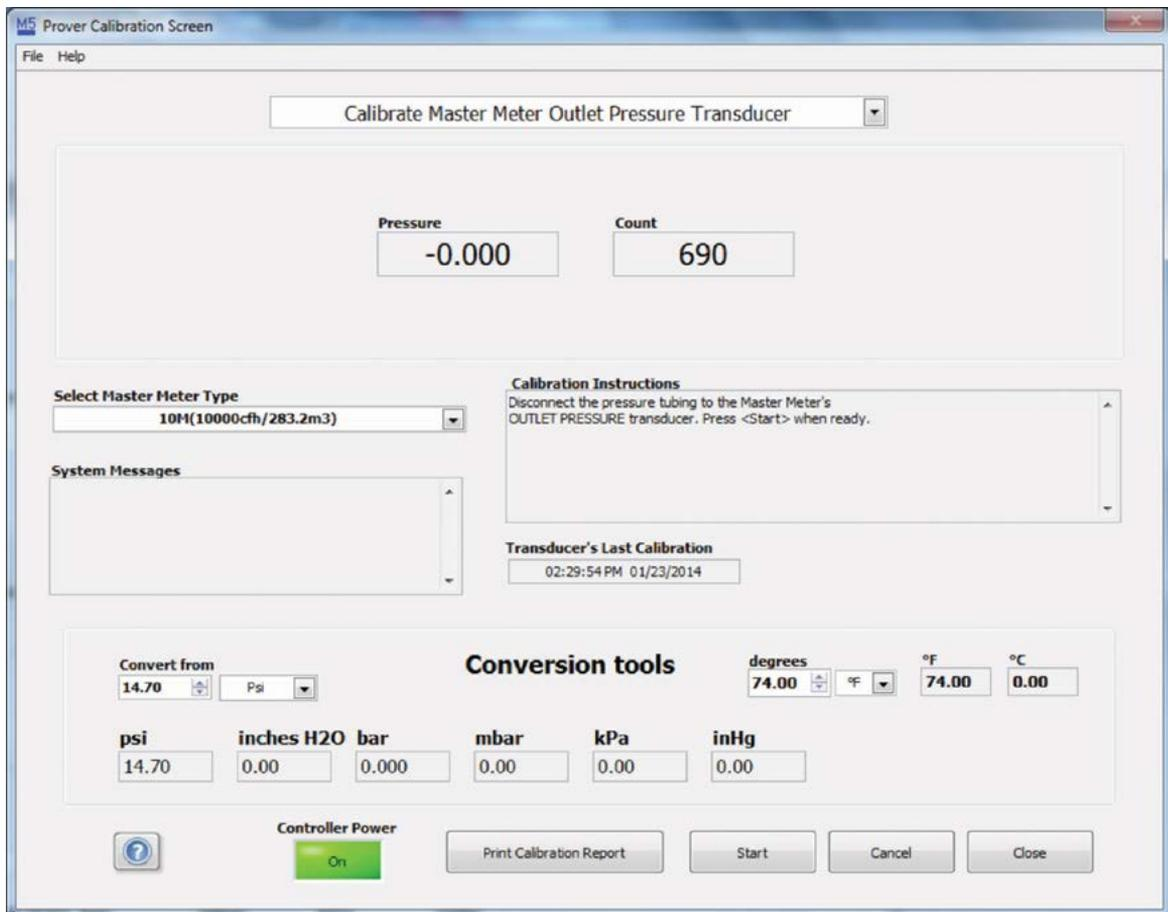

Figure 131: Select Calibrate Master Meter Outlet Pressure Transducer
1. From the Prover Calibration Screen, select the pull down arrow and click "Calibrate Master Meter Outlet Pressure Sensor." Refer to **Figure 131**.